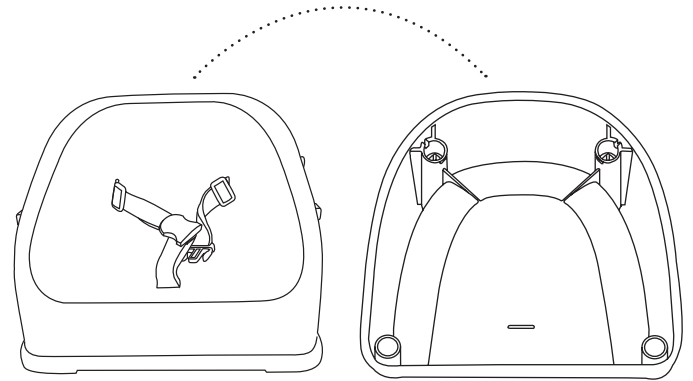

Fig. 10
1. Flip floor seat over to see bottom. (Fig 10).